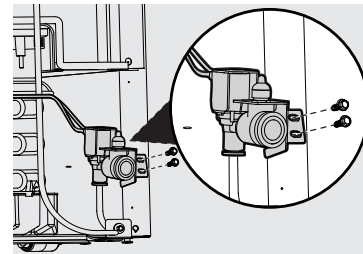

Figure 17
14. The water valve location has pre-made holes on the right rear of the unit. The water line should be oriented downward when the valve is installed. Install the water valve using a  $\frac{1}{4}$ " hex head driver, install the 2 hex head screws. Tighten screws until they are snug and then tighten an additional  $\frac{1}{4}$  turn. See Figure 17.